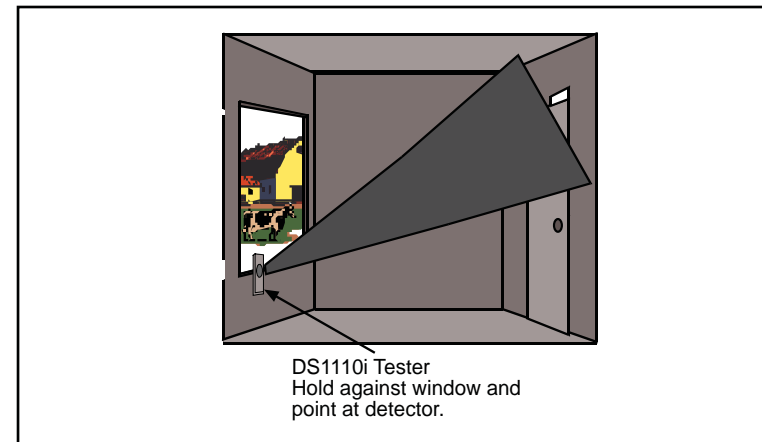

Figure 7.1: Test #2 Response Test
- Hold the DS1110i Glass Breakage Tester against the window being tested and point it at the detector. If there are curtains or blinds covering the window, close them over the Tester. See Figure 7.1.